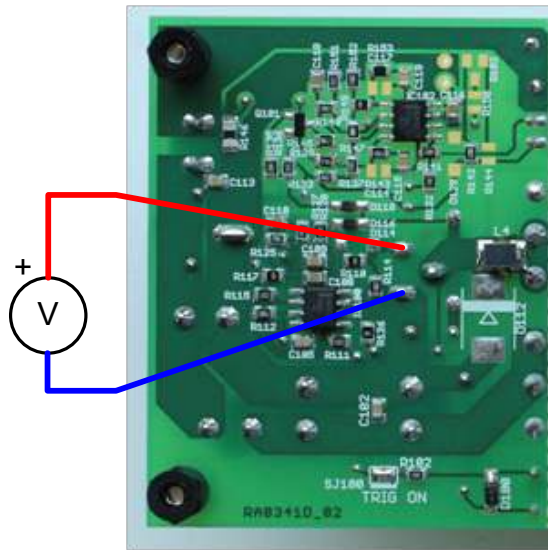

Figure 2: Measure points
9. Check voltage at points according to Figure 2. It should be around 6 V.